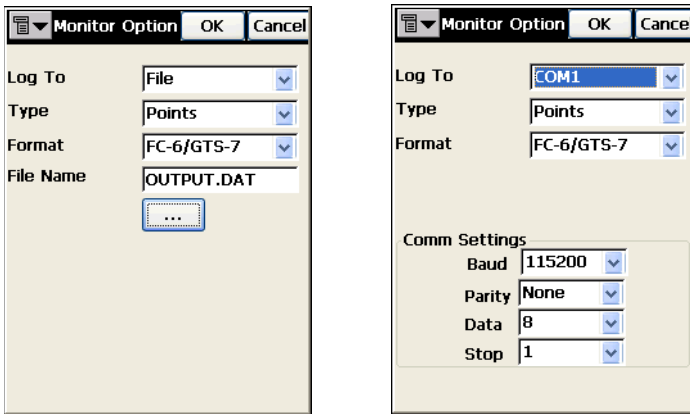

Figure 6-59. Monitor Options
1. Set the format and destination for the output file in the **Monitor Options** screen which is accessed from the context menu in the upper left corner of the *Configure Instrument* dialog (Figure 6-59).